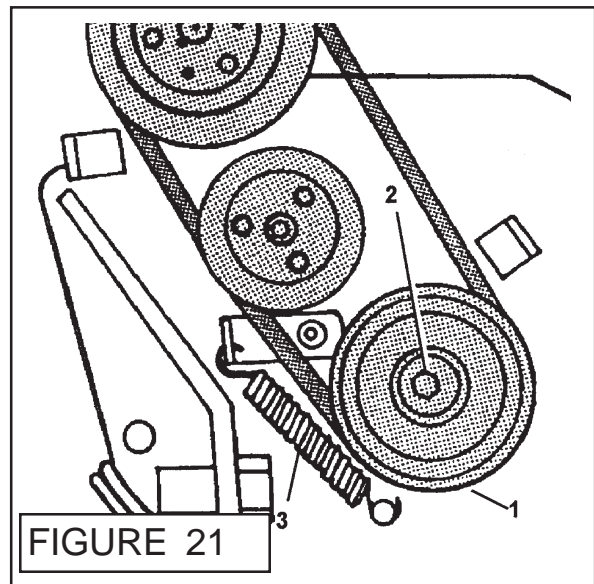

FIGURE 21
8. Remove fasteners that secure pulley to cuttershaft (See Figure 21 item 2). Remove pulley and key (See Figure 21 & item 2)